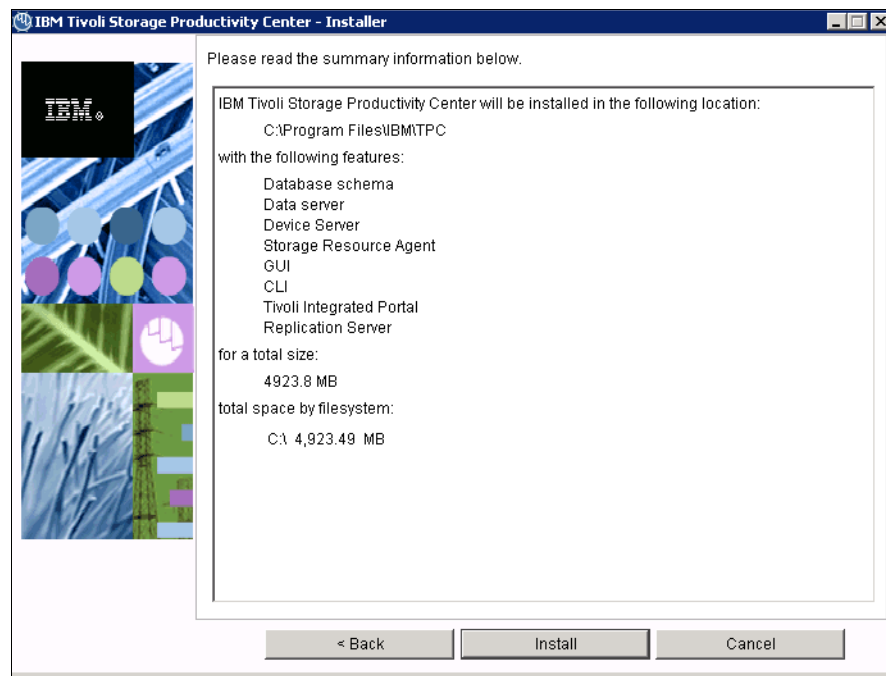

Figure 12-28 Summary information
8. Review the summary report and click **Install** to start the installation task (Figure 12-28).